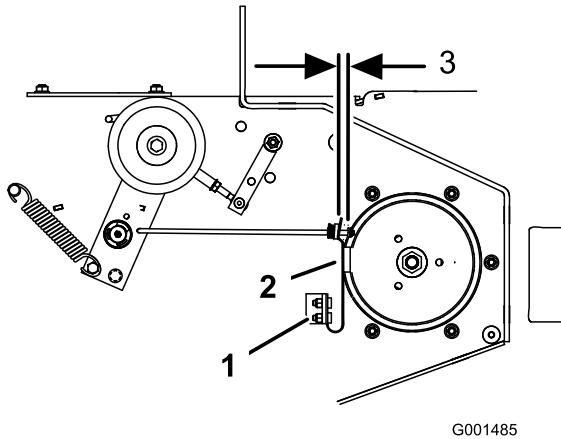

Figure 19
3. If necessary, adjust the spring mounting bolts so that the blade brake pad rubs against both sides of the pulley groove (Figure 19).
4. Adjust the nut at the end of the blade brake rod until there is 3 to 5 mm (1/8 to 3/16 inch) between the nut and spacer (Figure 19).